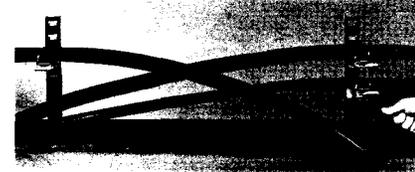

Figure 3 — Racking and Securing Cable
4.01 The cables entering the Splice Case should have at least 6" of straight and non-stressed entry into the end plates. All cable shall be tied down within 12" of the end plate. (Fig. 3)